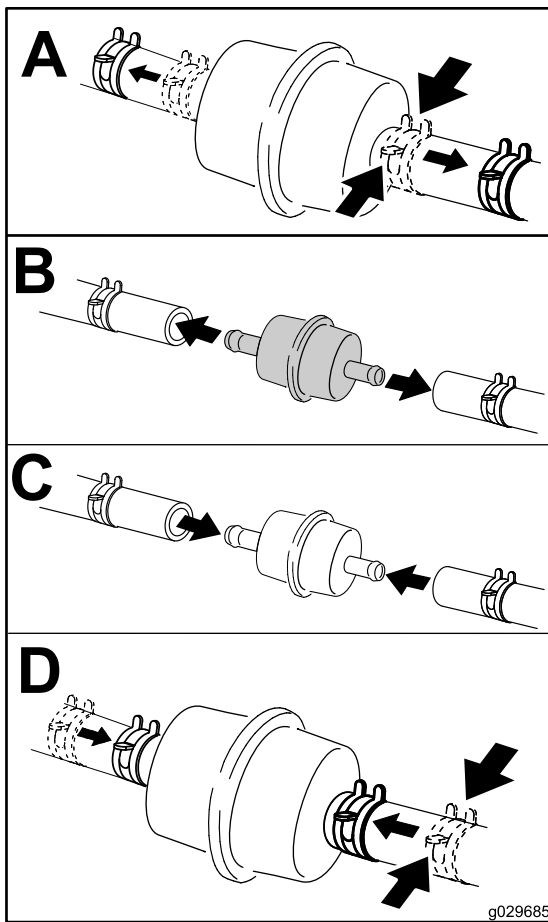

Figure 81
4. Close the fuel-shutoff valve under the seat (Figure 81).